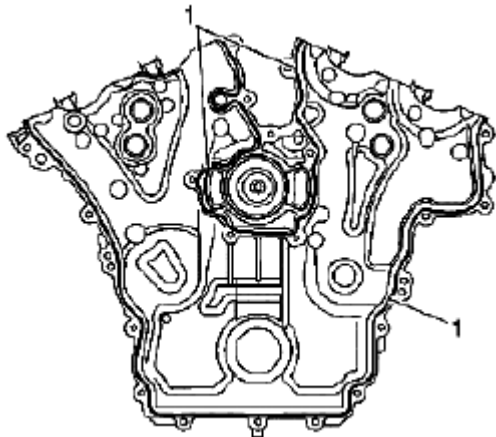

Fig. 951: Placing Bead Of RTV Sealant On Engine Front Cover
3. Place a 3 mm (0.118 in) bead of RTV sealant, GM P/N 12378521 (Canadian P/N 88901148) or equivalent, on the engine front cover as shown in **Fig. 951** (1).